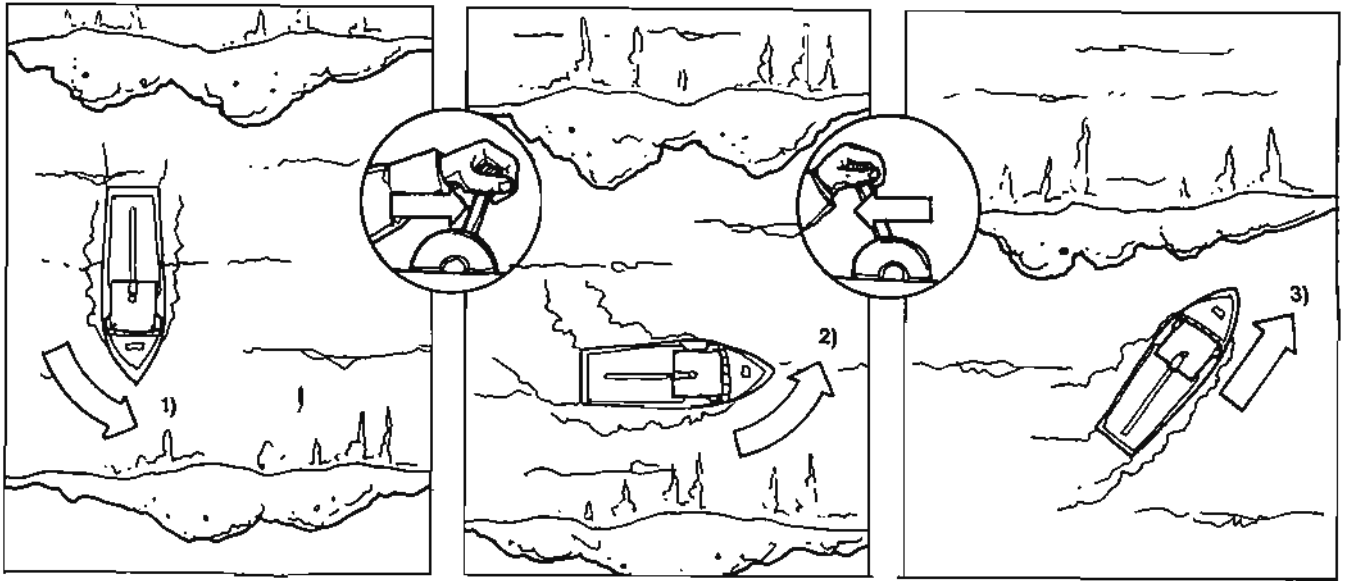

Figure 5-13. Turning in a smooth.
Always turn before it is necessary; for example, before the vessel finds itself in jeopardy off a lee shore. Turn in a *smooth*, a period when the waves are momentarily flatter than the prevailing sea condition. Start the maneuver as soon as the last wave crest has passed the vessel (Figure 5-13 (1)). Reduce engine speed to allow the sea to pass quickly. Turn the wheel hard over and turn the vessel in the trough between the crests. Try to turn fast enough to be head-to the next wave. Apply power to complete the turn quickly but don't gather too much headway (Figure 5-13 (2)). Reduce speed as soon as the vessel is nearly head-to weather (Figure 5-13 (3)).